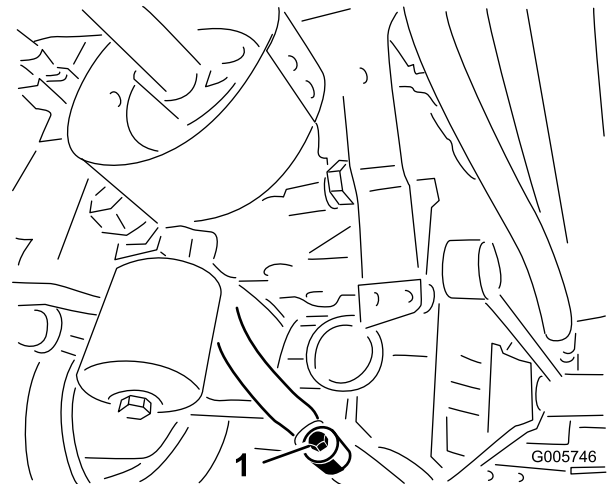
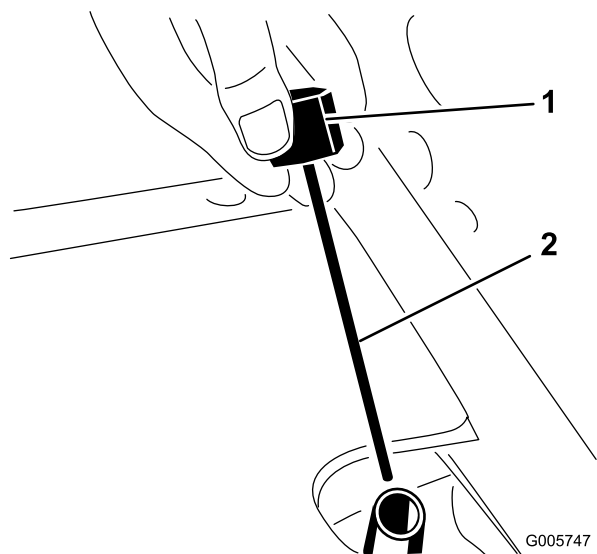

Figure 77
Figure 78
4. Remove drain plug from fitting between axle housing and oil filter and allow fluid to flow into drain pan (Figure 77).
6. Install drain plug in fitting between axle housing and filter (Figure 77).
7. Remove dipstick from axle filler tube (Figure 78) and fill axle to proper level with correct type of hydraulic fluid; refer to table above.
9. Leave machine set for two additional minutes, then remove dipstick and check fluid level in axle (Figure 78). If level is low, add fluid until level matches groove in dipstick (Figure 78). If level is too high, remove drain plug (Figure 77) and drain fluid until level matches groove in dipstick.